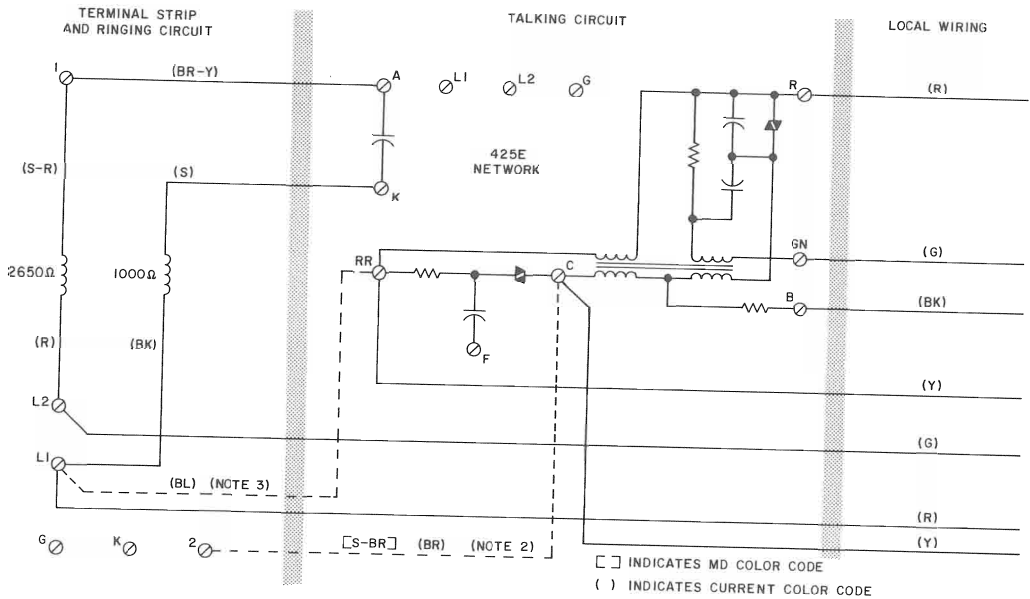

Fig. 2 — Circuit Diagram for Connections with Prepay TOUCH-TONE Dial Coin Collectors
2.02 See Fig. 2 and Table B for circuit diagram and connections for prepay TOUCH-TONE® dial coin collectors.